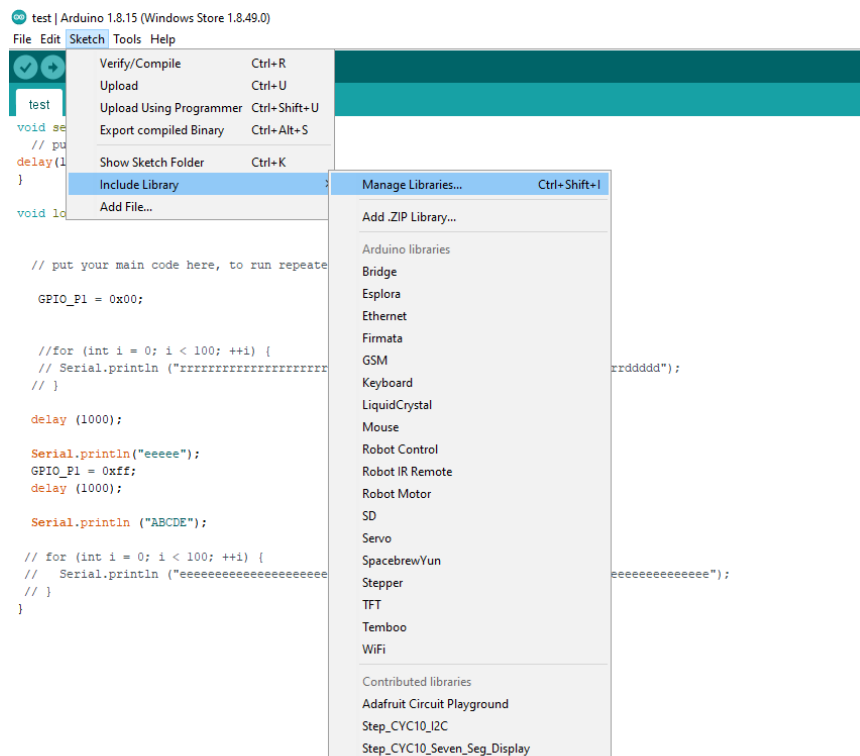

Figure 5-9 Install Arduino Library
1. Open Menu Sketch / Include Library / Manage Libraries..., as shown in Figure 5-9.